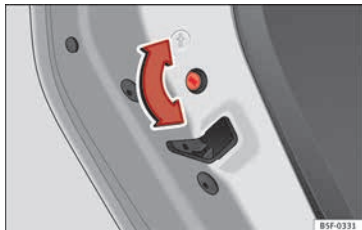

Fig. 135 Childproof lock on the left hand side door.
- With the door open, rotate the groove in the door using the ignition key, clockwise for the left hand side doors » **Fig. 135** and anti-clockwise for the right hand side doors.
- With the door open, rotate the groove in the door using the ignition key, anti-clockwise for the left hand side doors » **Fig. 135** and clockwise for the right hand side doors.